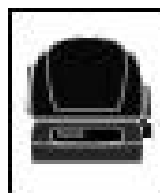

Fig. 40
- OPTIKA and the key-cutting machine are connected with a serial cable with adapter found in the OPTIONAL KIT (fig. 40).